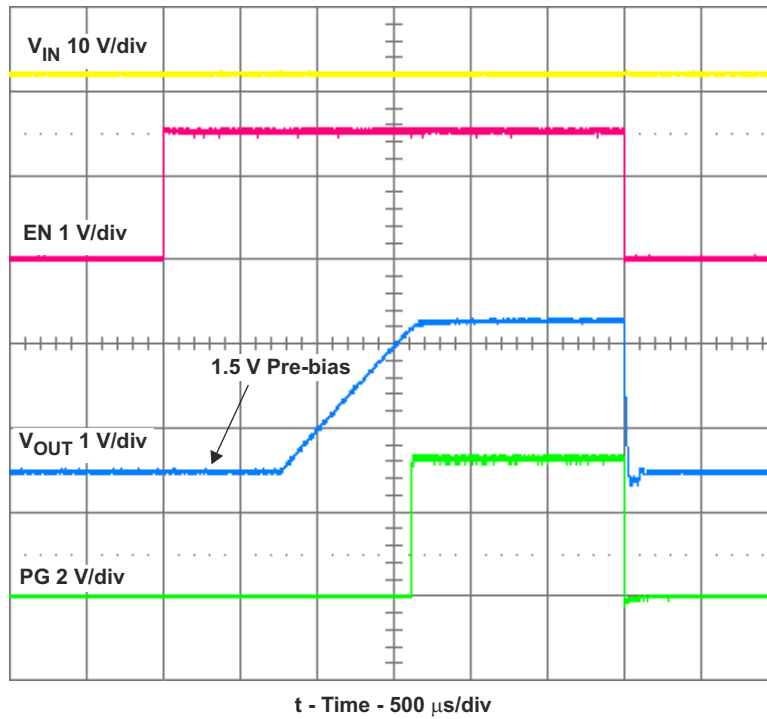

Figure 3-15. TPS62130A Prebias Start-Up and Shutdown on EN With 1-A Load and Vin = 12 V
- (1) EVMs made before August of 2013 use the non-A version of U1. The only difference between these devices is the operation of the PG pin when the device is disabled, as shown in Figure 3-14 and Figure 3-15.